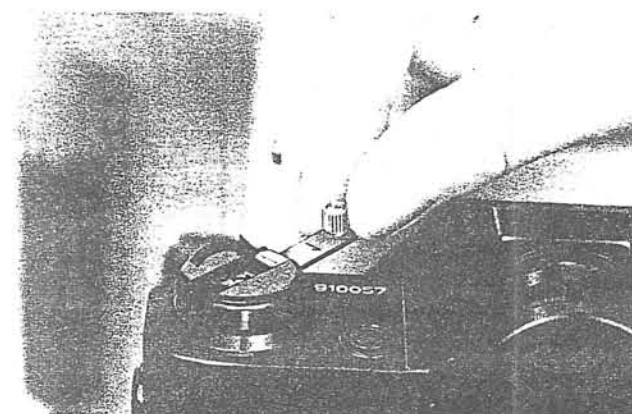

Fig. 56
2. To rewind the film into the cartridge, flip up the film rewind crank and turn it in the direction of the arrow marked on the crank. (Fig. 56)